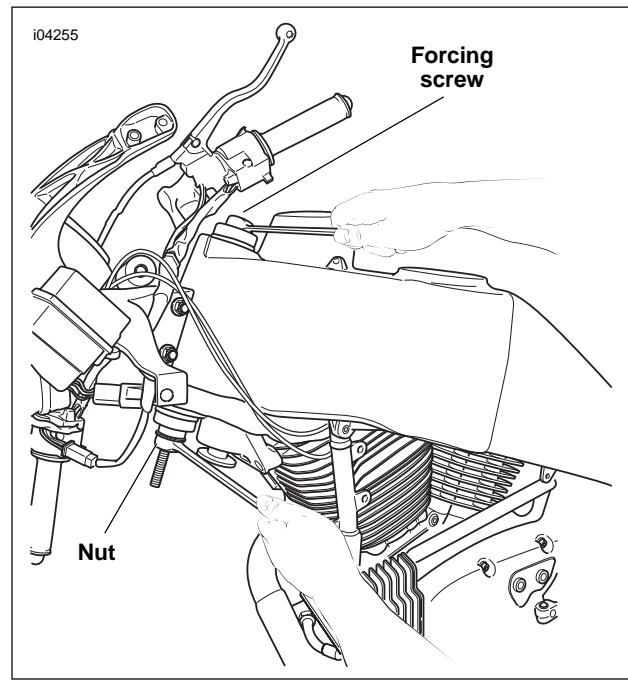

Figure 2-77. Install Bearings
- See Figure 2-77. Hold the forcing screw while tightening the nut to draw the bearings into the steering head. Continue tightening until both bearings are fully seated.